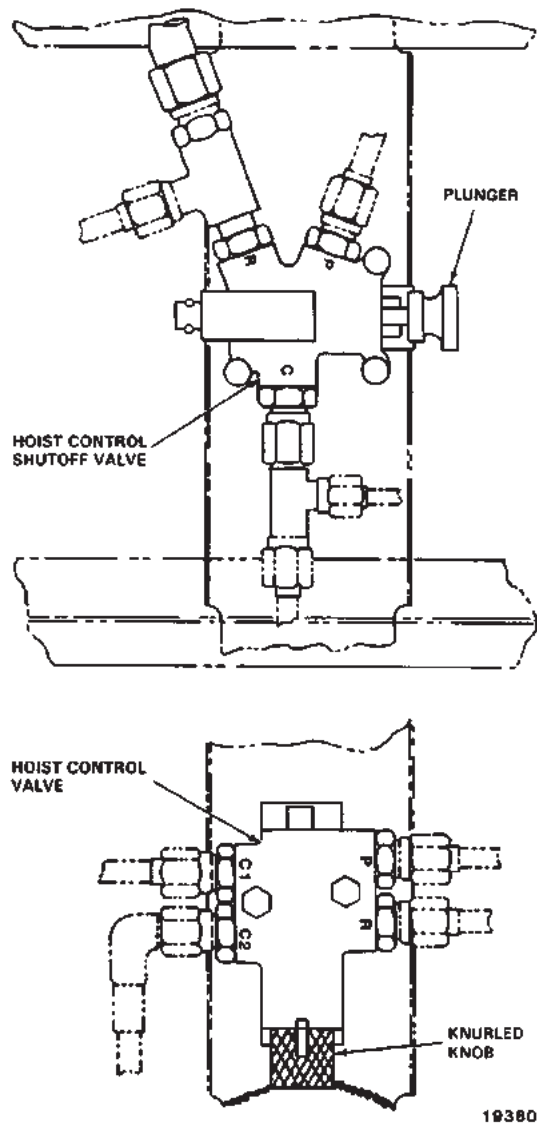

Figure 4-3-10. Hoist Control Valve and Hoist Control Shutoff Valve
(1) Remove electrical connectors from the hoist control valve and hoist control shutoff valve on the left bulkhead of the heater compartment (fig. 4-3-10).